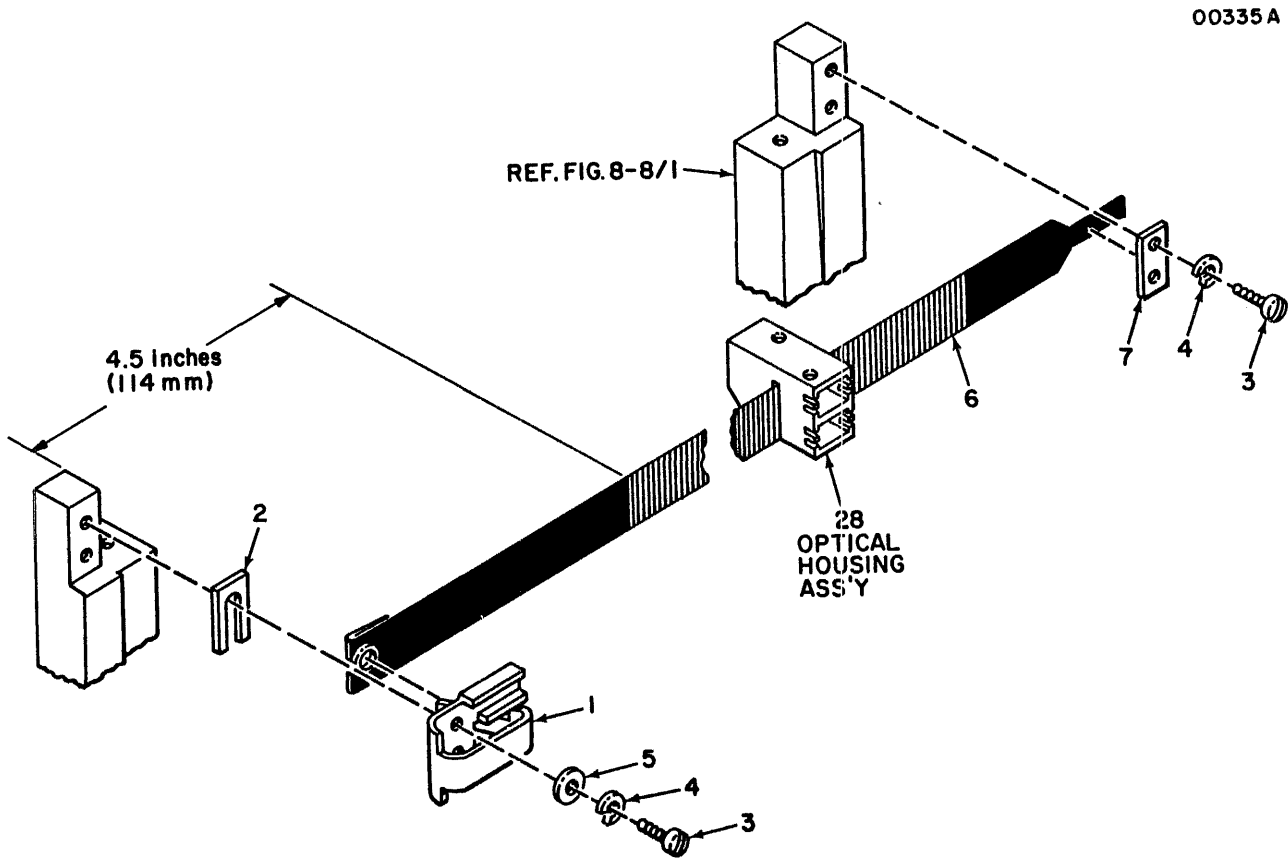

Figure 5-24. ESTABLISHING TIMING FENCE LOCATION AND PARALLELISM
- C. Timing Fence Location and Fixed Parallelism (Fig. 5-24)
(FIG. 5-24) WITH RESPECT TO TIMING FENCE,